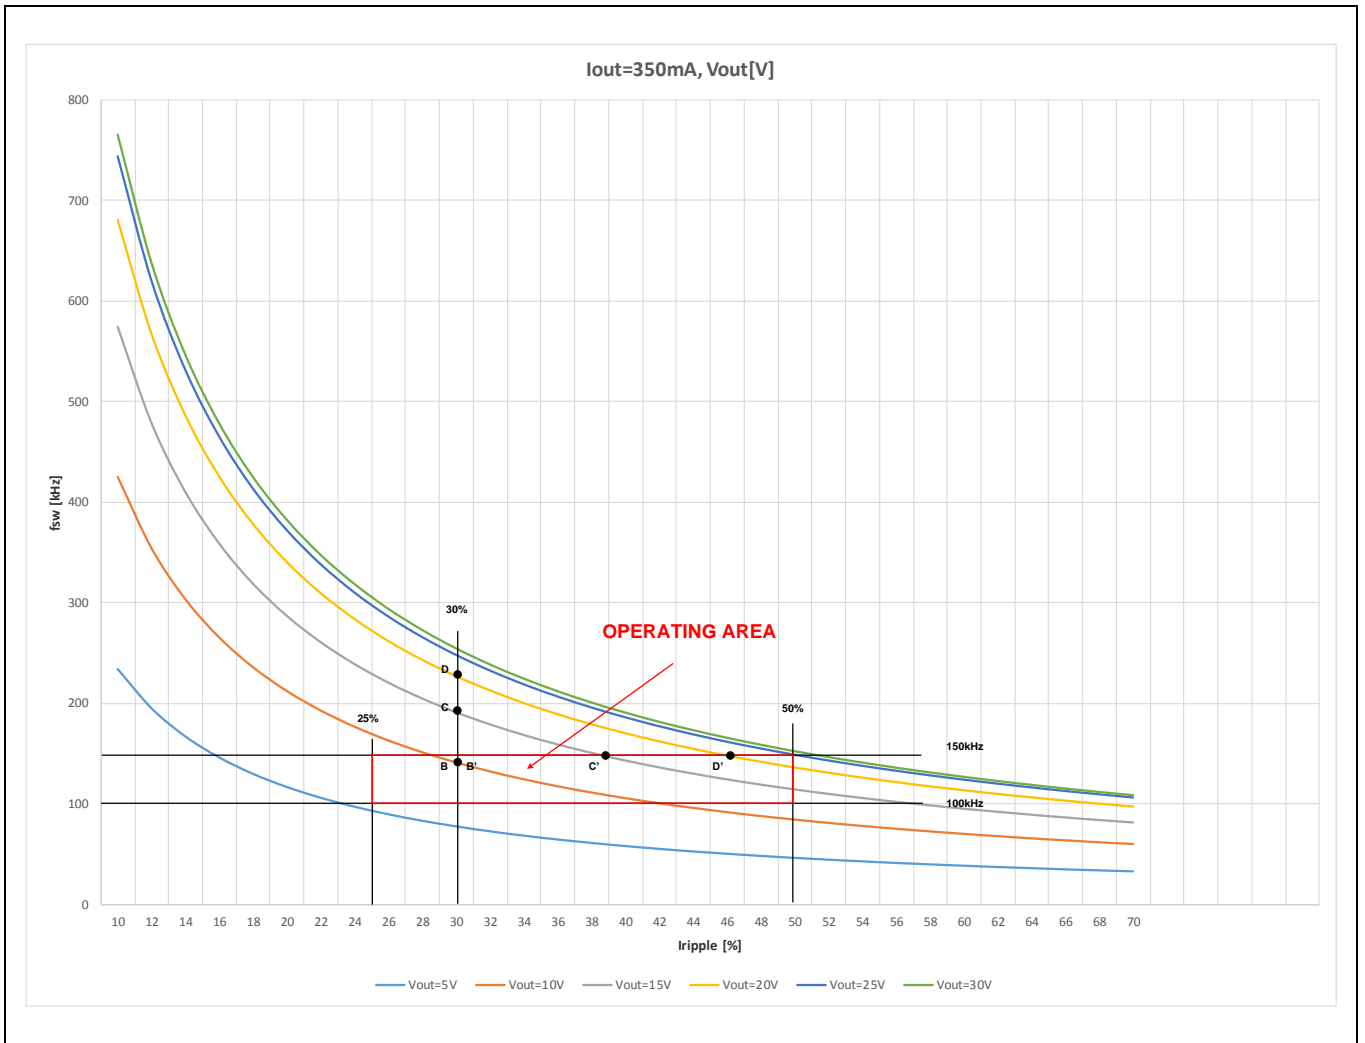

Figure 16. FRC Algorithm Example – Operating Point successfully put into Operating Area
- 1) If the achieved operating frequency is within allowed borders (defined by f_{sw_min} and f_{sw_max}), and the starting value of the ripple is within allowed absolute ripple borders (defined by I_{ripple_min} and I_{ripple_max}), no correction will be performed (e.g. $V_{out} = 10$ V – orange curve, operating point B is in the operating area, $B=B'$, see Figure 16).
- 2) If the achieved operating frequency is above the maximum allowed switching frequency f_{sw_max} (e.g. $V_{out} = 15$ V – grey curve, point C; $V_{out} = 20$ V – yellow curve, point D), the firmware will start to slowly increase the ripple in order to lower the operating frequency (the slope of this increasing ripple depends on the buck inductance L_{EXT} , see equation (12) on page 17). It will continue increasing the ripple until the frequency falls below the high threshold f_{sw_max} (corrected points C' and D', see Figure 16).